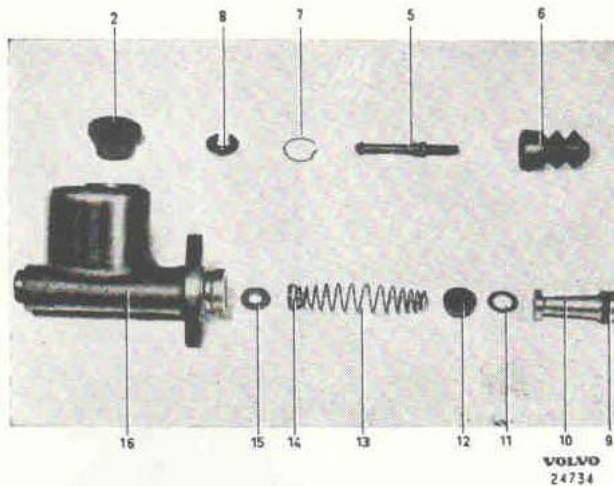

Fig. 44. Master cylinder, late production.
2. Bend back the rubber cover (6) and remove the circlip (7), washer (8) and push rod (5). Shake all the parts out of the cylinder, see Fig. 44.
1. Fit the washer (15, Fig. 44) in the bottom of the cylinder.